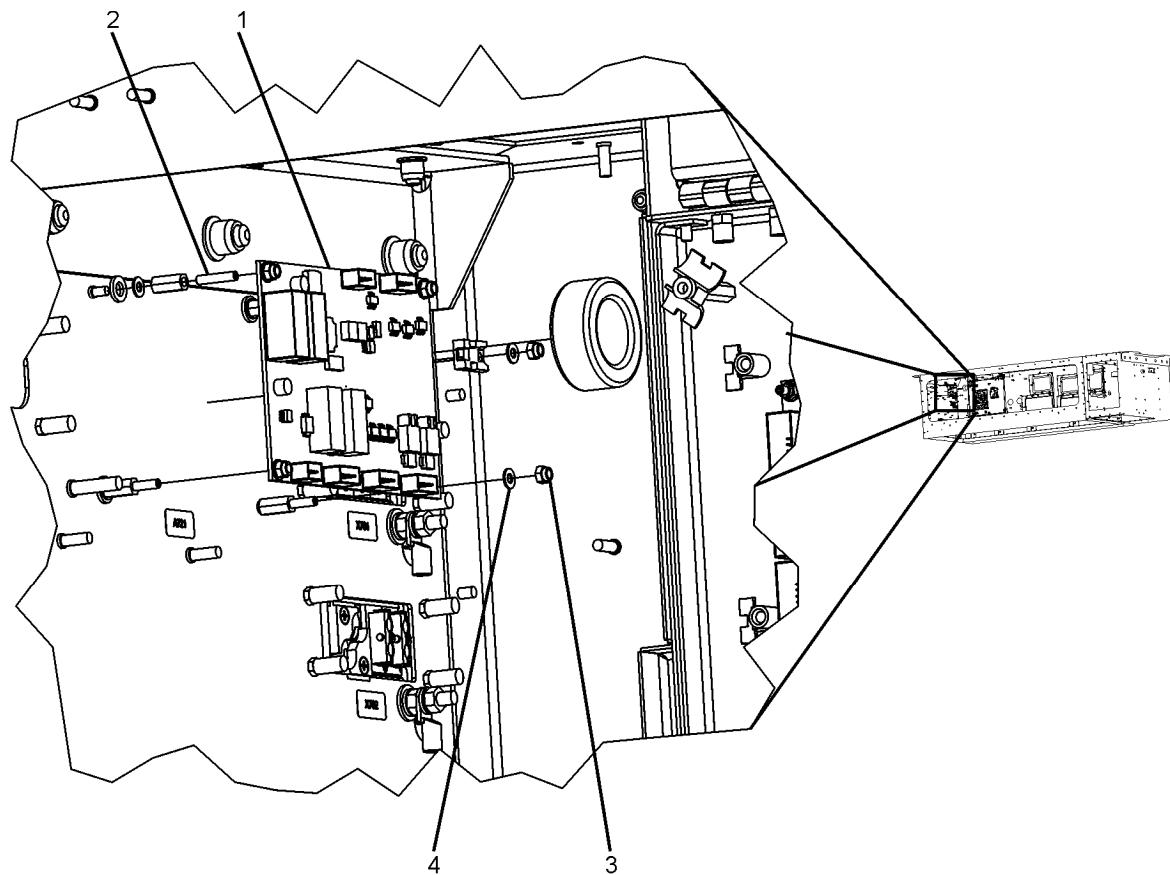

Figure 5-50: A721 Anchor Points
6. Detach A721 (see Figure 5-50). A721 (1) is mounted atop four setscrews (2) and is held in place with M4 locking nut (3) and M4 washer (4) sets. Remove the fasteners to detach the A721.
3. Attach A721 (see Figure 5-50). A721 (1) is mounted atop four setscrews (2) and is held in place with M4 locking nut (3) and M4 washer (4) sets. Affix the fasteners and tighten to 22 lb-in (2.5 Nm).